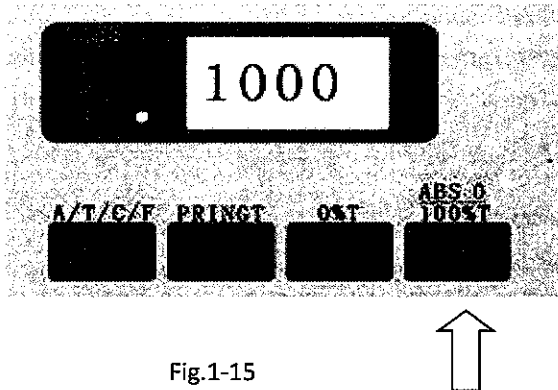

Fig.1-15
- b. If the current F value is 1000, press the $\Delta/0\text{Abs}/100\%T$ key, until it goes up to 1500. (Fig.1-15)